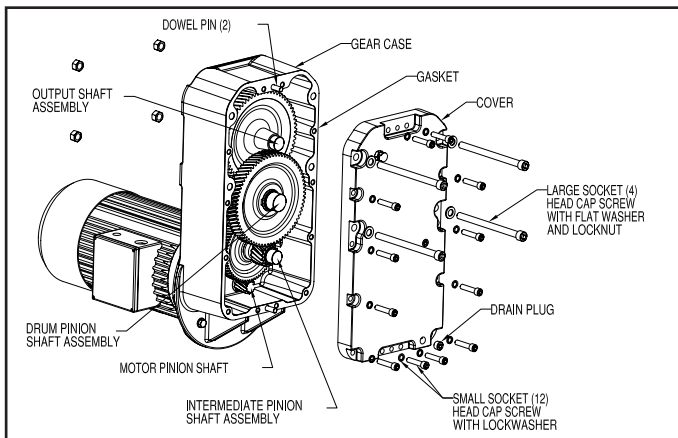

**Figure 5-6. Drum Frame & Geared Limit Switch
- Remove the geared limit switch or disconnect the wires so that the electrical cable will not inhibit removal of the drum. (see Figure 5-6).
- Remove the hoist from the beam, place it on the ground and provide adequate means to support the drum before removing the frame rod cap screw(s) and stiffener plate hardware ("B" & "C" Frame only) at the outboard end drum frame (see Figure 5-6).